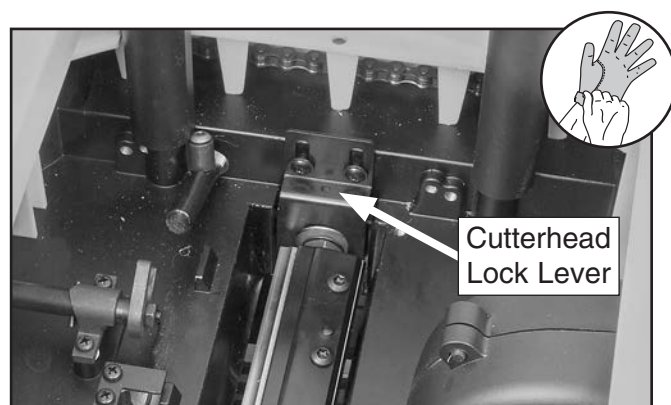

Figure 7. Cutterhead lock lever.
15. Press cutterhead lock lever down to allow cutterhead to rotate (see **Figure 7**).